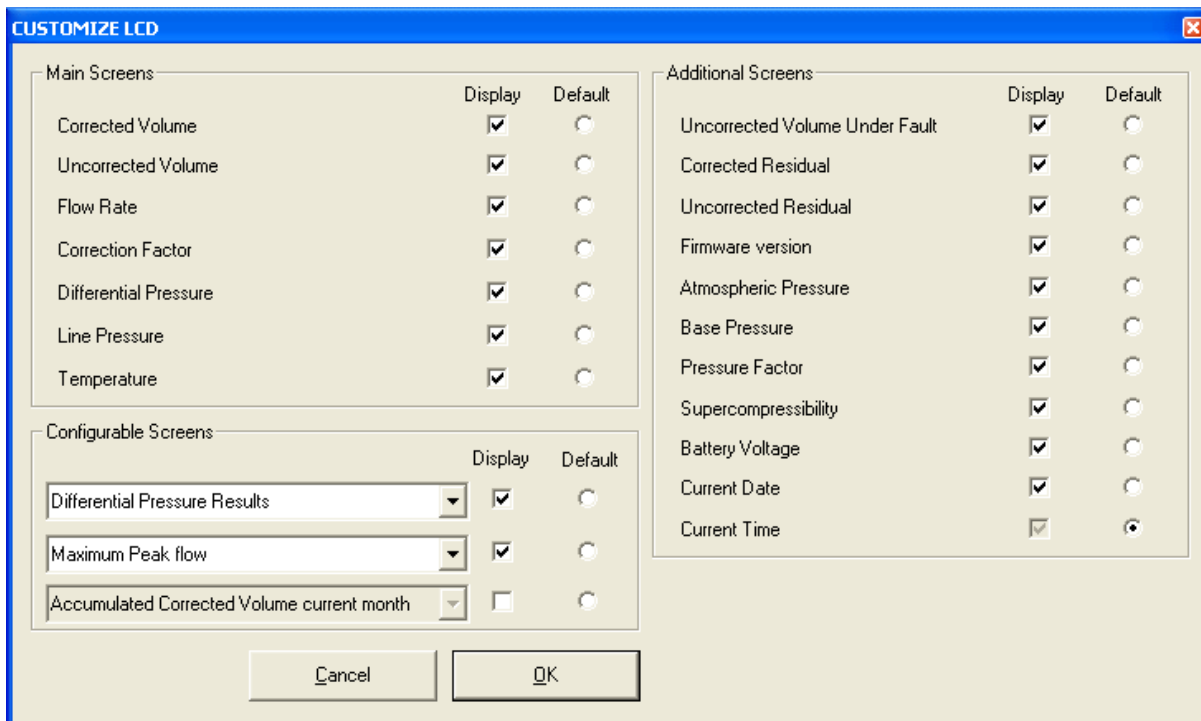

Figure 7 - Customize LCD Screen
*Only where applicable, i.e. if transducer fitted is gauge – Figure 7 (*Customize LCD Dialog*) below represents an IMC/W2 with an absolute transducer.